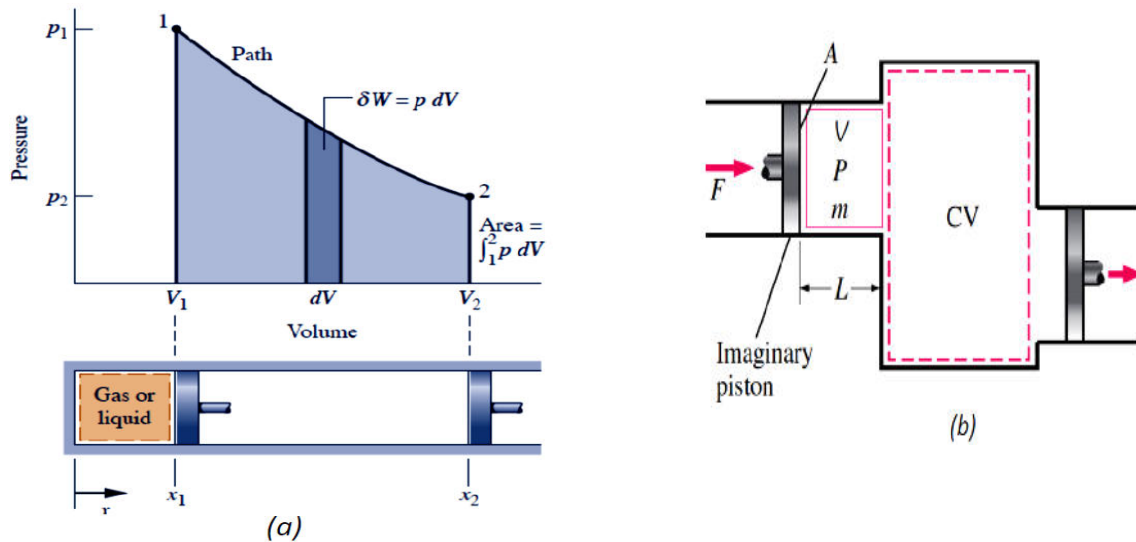

Fig. 1.5 (a) Displacement work and (b) Flow work
- ✓ This work transfer during a process is equal to the area under the curve on a $p - V$ diagram as shown in above fig.1.5(a)
- ✓ Consider a fluid element of volume V , entering the control volume through a cross sectional area A as shown in fig.1.5 (b).